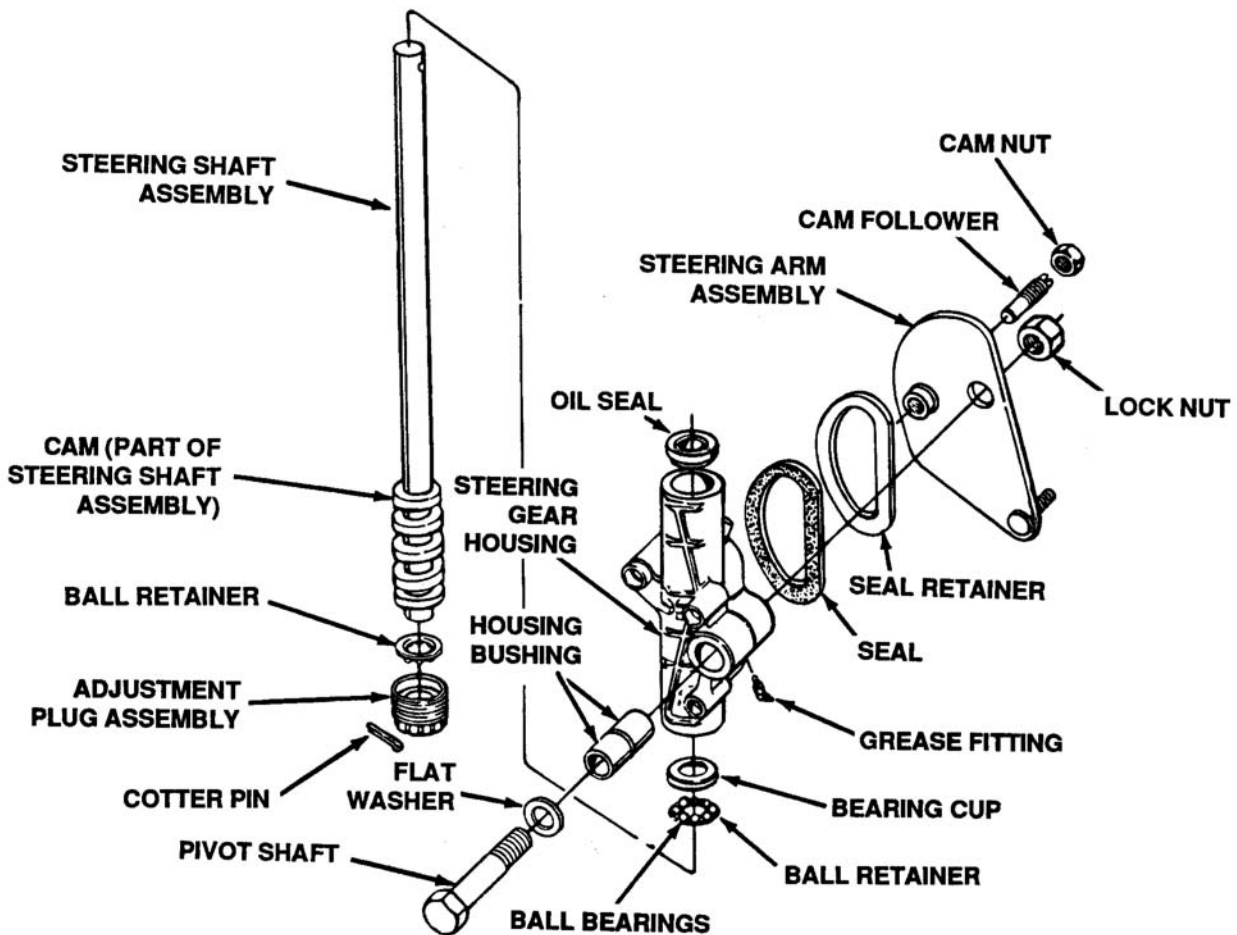

Figure 4-16. Four Wheel Steering Assembly
1. Remove steering arm assembly, seal retainer and seal by removing the lock nut on the pivot shaft. At this time, the pivot shaft and flat washer can be removed from the steering gear housing. The housing bushings must be pressed out for replacement. See Figure 4-16.